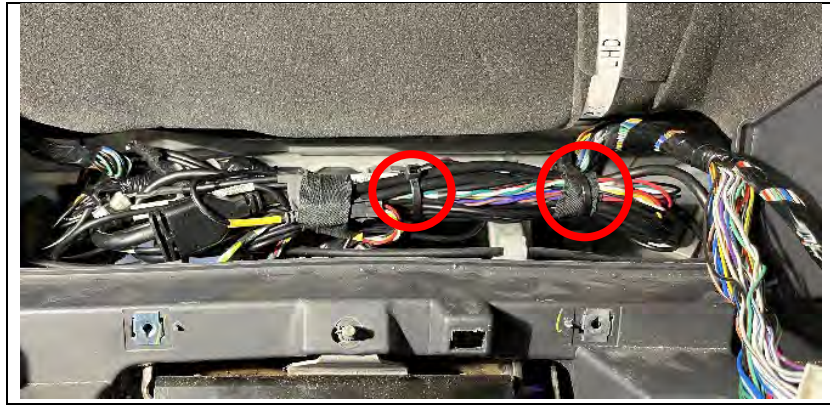

Figure 19
19. Cut the two (2) zip ties that are securing the Mobileye System harnesses behind the meter cluster. (See Figure 19.)